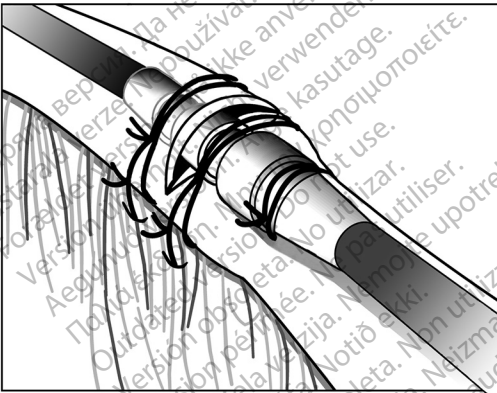

Figure 10. Example of suture sleeve, venous cutdown technique
- Using the same groove, secure the lead and vein to the adjacent fascia (Figure 10 Example of suture sleeve, venous cutdown technique on page 26).